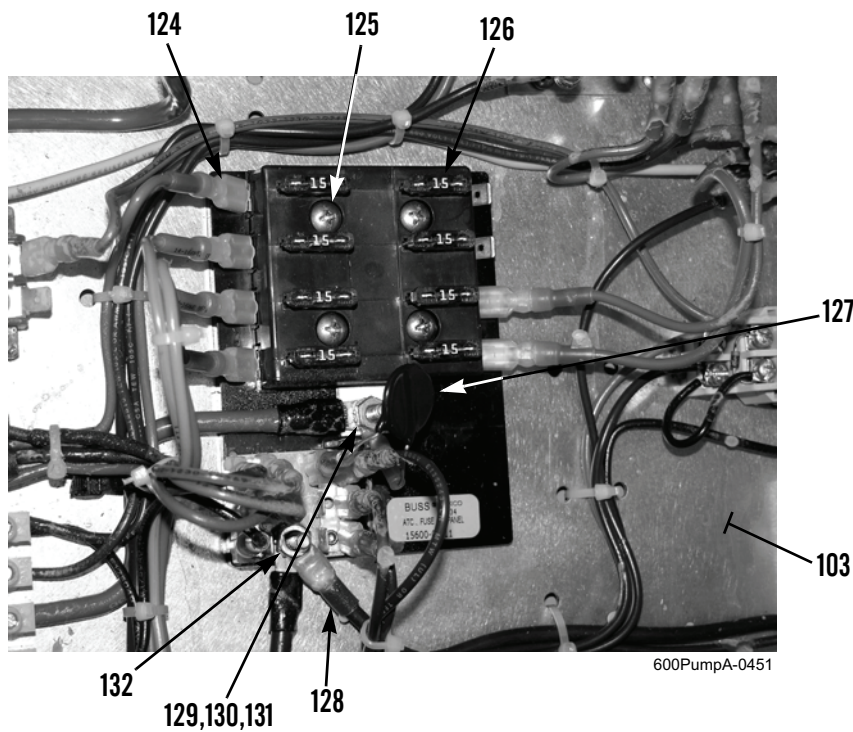

Figure 34. Fuse Block.
1. Remove six wires (Figure 34, Item 124) and eight wires (Figure 34, Item 128) from fuse block (Figure 34, Item 126).
2. Remove nut and star washer assembly (Figure 34, Item 129), ring terminal of resistor (Figure 34, Item 127), and wire (Figure 34, Item 130) from fuse block (Figure 34, Item 126).
3. Disconnect resistor lead and remove resistor (Figure 34, Item 127) from fuse panel (Figure 34, Item 126).
4. Remove nut and star washer assembly (Figure 34, Item 132) and two wires (Figure 34, Item 131) from fuse block (Figure 34, Item 126).
5. Remove four screws (Figure 34, Item 125) and fuse block (Figure 34, Item 126) from inside circuit board panel (Figure 34, Item 103).
1. Install fuse block (Figure 34, Item 126) on inside circuit board panel (Figure 34, Item 103) with four screws (Figure 34, Item 125).
2. Install two wires (Figure 34, Item 131), ring terminal of resistor (Figure 34, Item 127), and nut and star washer assembly (Figure 34, Item 132) on fuse block (Figure 34, Item 126).
3. Connect terminal of resistor (Figure 34, Item 127) to fuse panel (Figure 34, Item 126).
4. Install wire (Figure 34, Item 130), ring terminal of resistor (Figure 34, Item 127), and nut and star washer assembly (Figure 34, Item 129) on fuse block (Figure 34, Item 126).
5. Install six wires (Figure 34, Item 124) and eight wires (Figure 34, Item 128) on fuse block (Figure 34, Item 126).